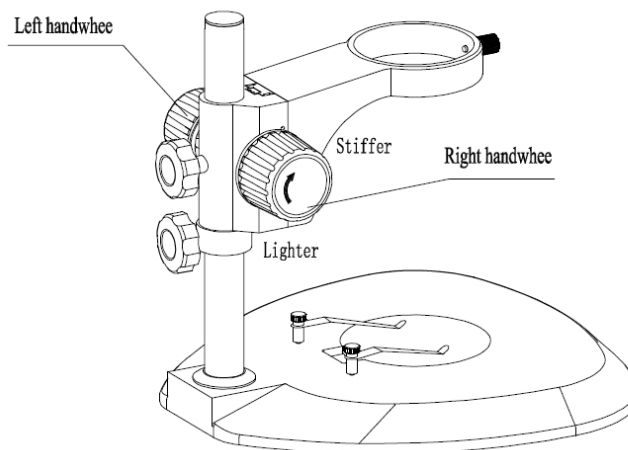

Figure 7
(5) Focusing handwheel tension adjustment (Figure 7)